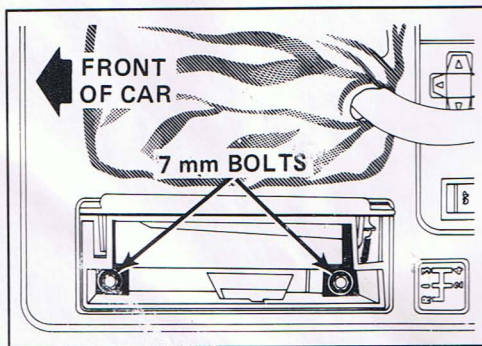

Figure 1 - Underneath ashtray (manual transaxle)
2. Using the nut driver, remove the 7mm bolts under each ashtray. See Figure 1.